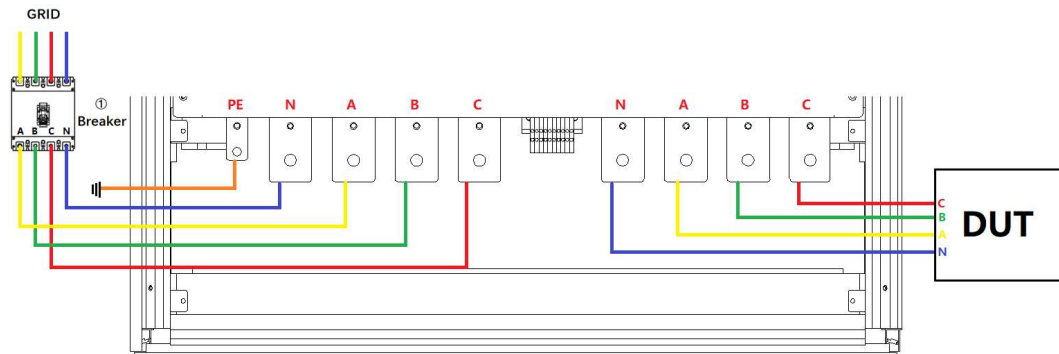

Figure 3-1 Equipment and the circuit breaker
After completing the installation, close the circuit breaker on the distribution side (Figure 3-1 ①).